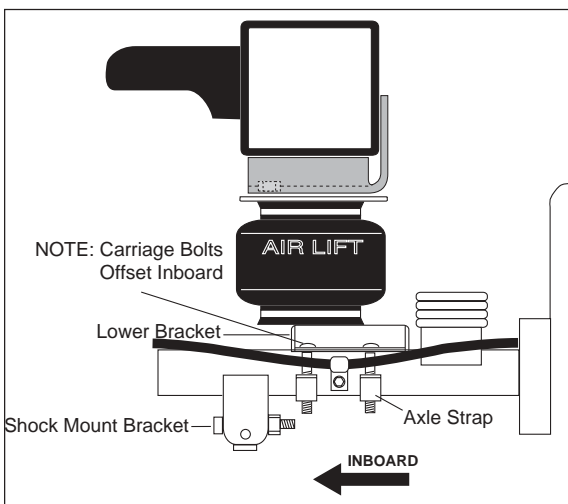

Figure 4
- Set the assembly on the axle housing between the shock absorber bracket and the leaf spring (Figure 4). Loosely attach lower bracket and straps around the axle using carriage bolts (I), flat washers (G) and lock nuts (J) (Figure 4).